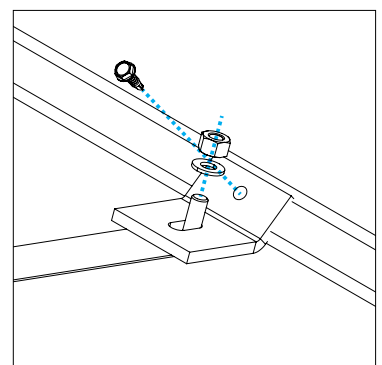

Figure 10. Tank clamp
21. Secure the two (2) tank clamps behind the tank to the bolt fixed to the tank strap using the larger and smaller washers and the nut. Screw fix the tank clamps to the tank using the two (2) self-drilling screws provided (*Figure 10*).